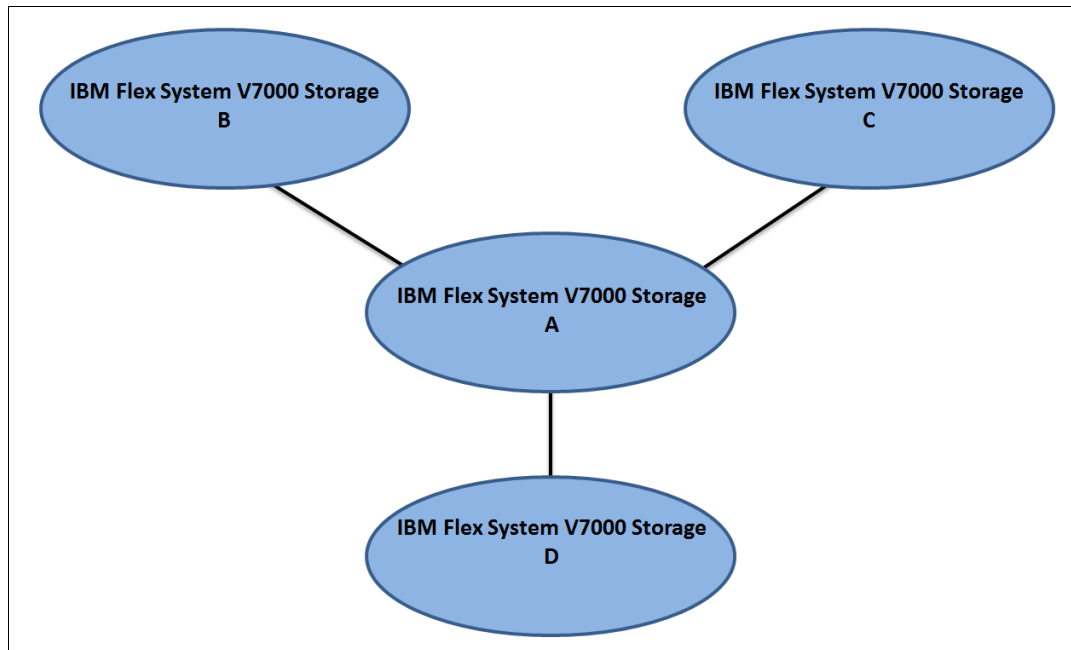

Figure 9-58 Star topology for IBM Flex System V7000 Storage Node
- ▶ Star topology (Figure 9-58):